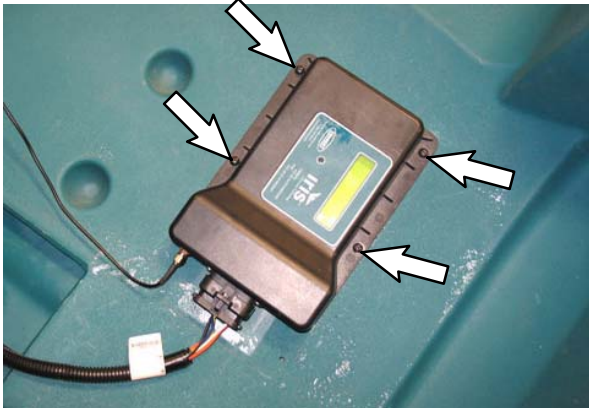

FIG. 8
7. Use four pan screws (2) and four flat washers (3) to install the telemetry module (1) onto the front shroud. (Fig. 8)